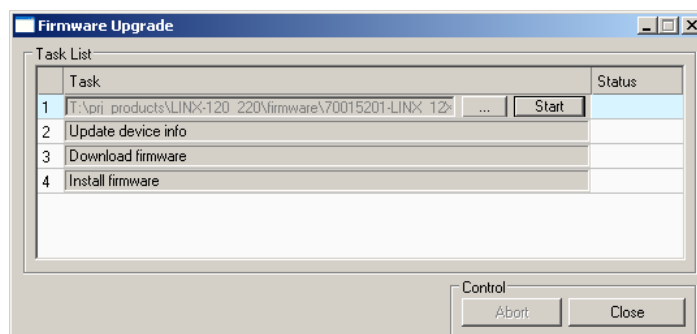

Figure 291: Firmware Update dialog of the Configurator.
8. This opens the **Firmware Update** dialog as shown in Figure 291. Click on the button  and select the firmware image.